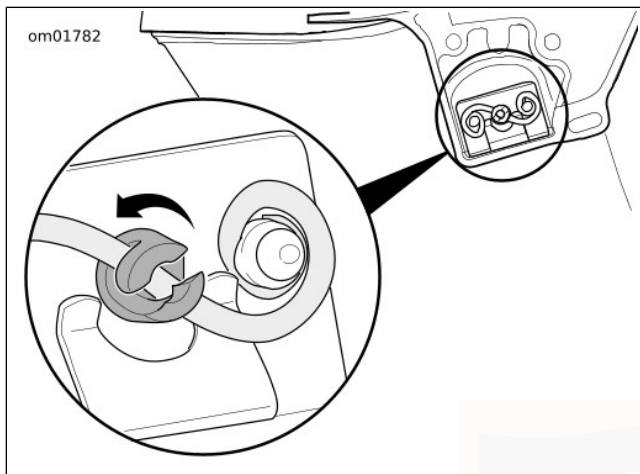

Figure 41. Mounting Stud Installation (cutaway view)
3. See Figure 41. Push in the mounting studs and rotate a quarter turn clockwise to engage the wireform latch.